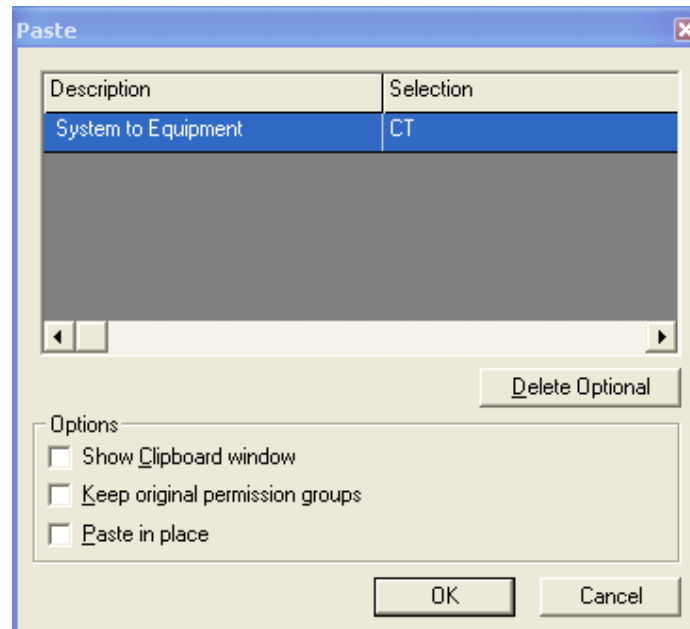

Figure 9: Paste Dialog
32. The **Paste** dialog box appears. Keep the default parent system for the new objects to be pasted on the model, as shown in Figure 9. Clear the **Paste in place** check box in the **Paste** dialog box and click **OK**.